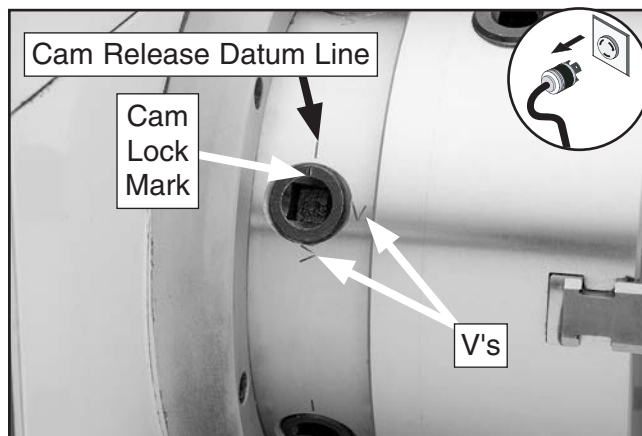

Figure 39. Cam and lock marks.
7. Turn a camlock with the chuck key until the cam line falls between the "V" marks (**Figure 39**).
Note: If any of the cam lock marks (**Figure 39**) do not fall between the "V" marks when the cam lock is tight, you must adjust the offending camlock stud as discussed in **Camlock Stud Adjustment on Page 37**.